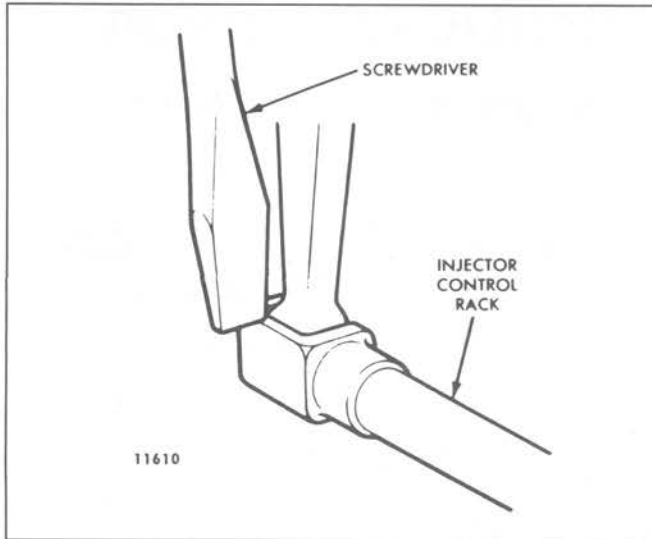

Fig. 4 - Checking Injector Rack "Spring"
7. To be sure the rack control lever is properly adjusted, press down on the injector rack with a screw driver or finger tip (Fig. 4). A light pressure should cause the rack to rotate. The rack is sufficiently tight if the rack returns ("springs" back) to its *original* position when the pressure is removed. The rack is too tight if a heavy pressure is required to rotate the rack.